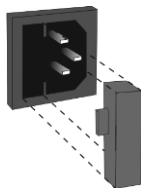
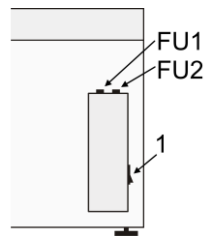

Figure 12.
Figure 14.
8.2.1. Fuse for the control box. Disconnect the unit from the electric circuit. Remove the power cable from its socket on the rear side of the unit. Open the fuse holder by pulling out the holder (fig. 12, compact models) or by screwing off the holder lid marked FU2 (fig. 14, model **UVT-S-AR**). Check the fuse and replace, if necessary, see 6.3.